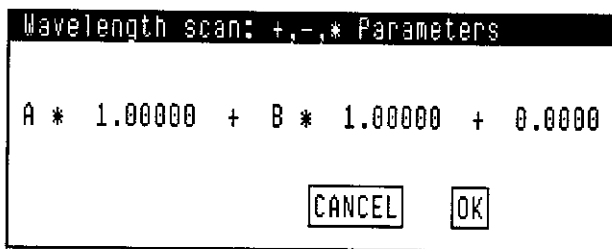

Figure 6-9. $+,-,*$ Parameters Window
- To input the calculation parameters, click on "Result" in the middle of the window to display the $+,-,*$ Parameters window, Figure 6-9.